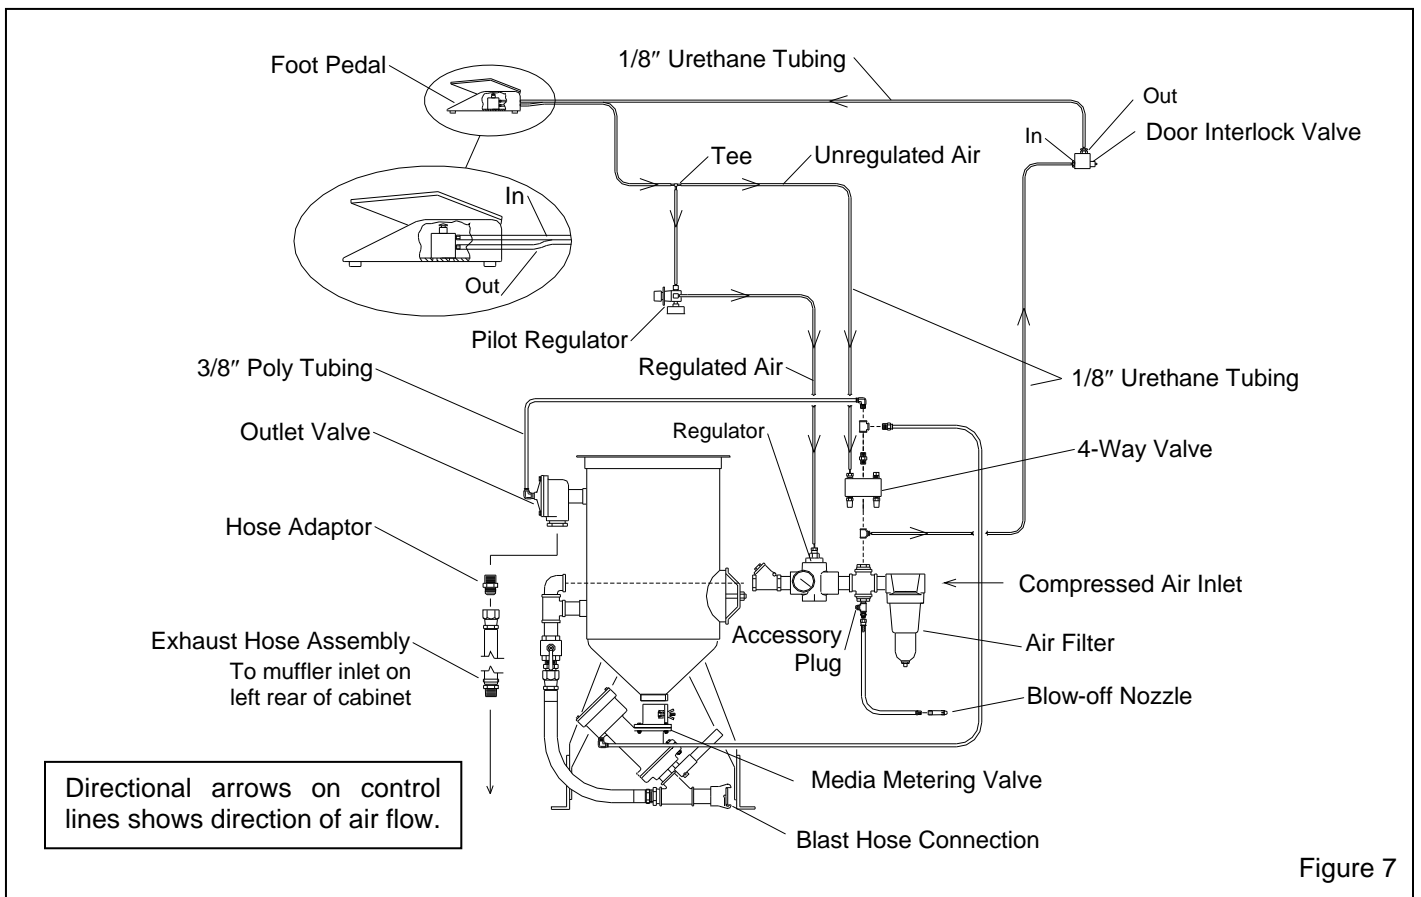

Figure 7
2.5.1 Attach the 1/2" blow-off hose coming from the front right cabinet hopper to the compatible fitting on the blast machine piping, between the air filter and regulator. Refer to the schematic in Figure 7.
2.8.1 Uncoil the 1/8" urethane control tubing, from under the cabinet. The end of each tubing is numbered 1, 2, 3 or 4. Connect the tubing to the adaptor with the corresponding number on the pressure regulator, piping, and 4-way air valve. Check the schematic in Figure 7 to confirm the connections.